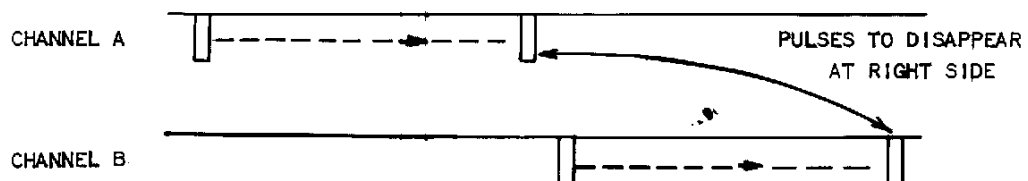

FIGURE 3
- C. PULSE TO MOVE FROM RIGHT TO LEFT APPROXIMATELY 1/2 CYCLE AS VM IS CHANGED FROM +20V TO -20V. SEE FIGURE 3. (MOST CARDS HAVE PULSES THAT DISAPPEAR AT -12V, AND STOP MOVING TO LEFT AT +15V. THESE VALUES ARE NOT IMPORTANT AS CARD IS TRACKED IN STEP 3).